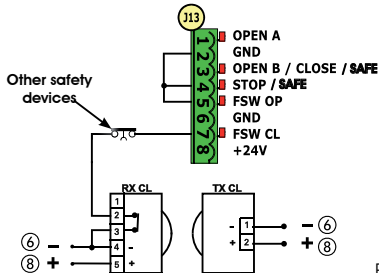

Fig. 5
The electronic device is equipped with an integrated dual channel decoding system (DS, SLH, LC/RC) known as OMNIDEC. This system can use an additional receiving module (Fig. 5 re. ①) and radiocontrols